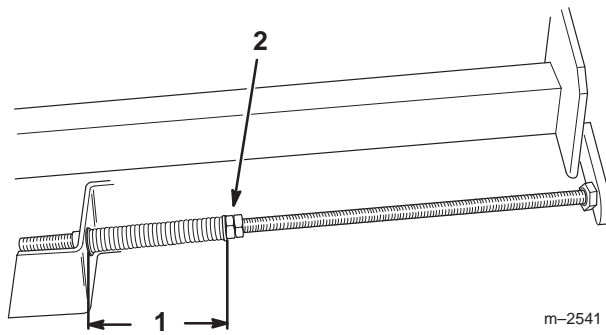

Figure 50
6. Tighten the jam nuts on the adjusting shafts until the springs are compressed to a length of 5 inches (12.7 cm) (Fig 50).